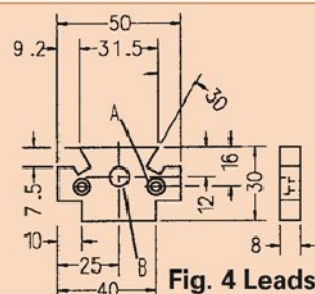

Fig. 4 Leadscrew bearing plate - Part 4
Leadscrew bearing plate (4) (Fig 4)